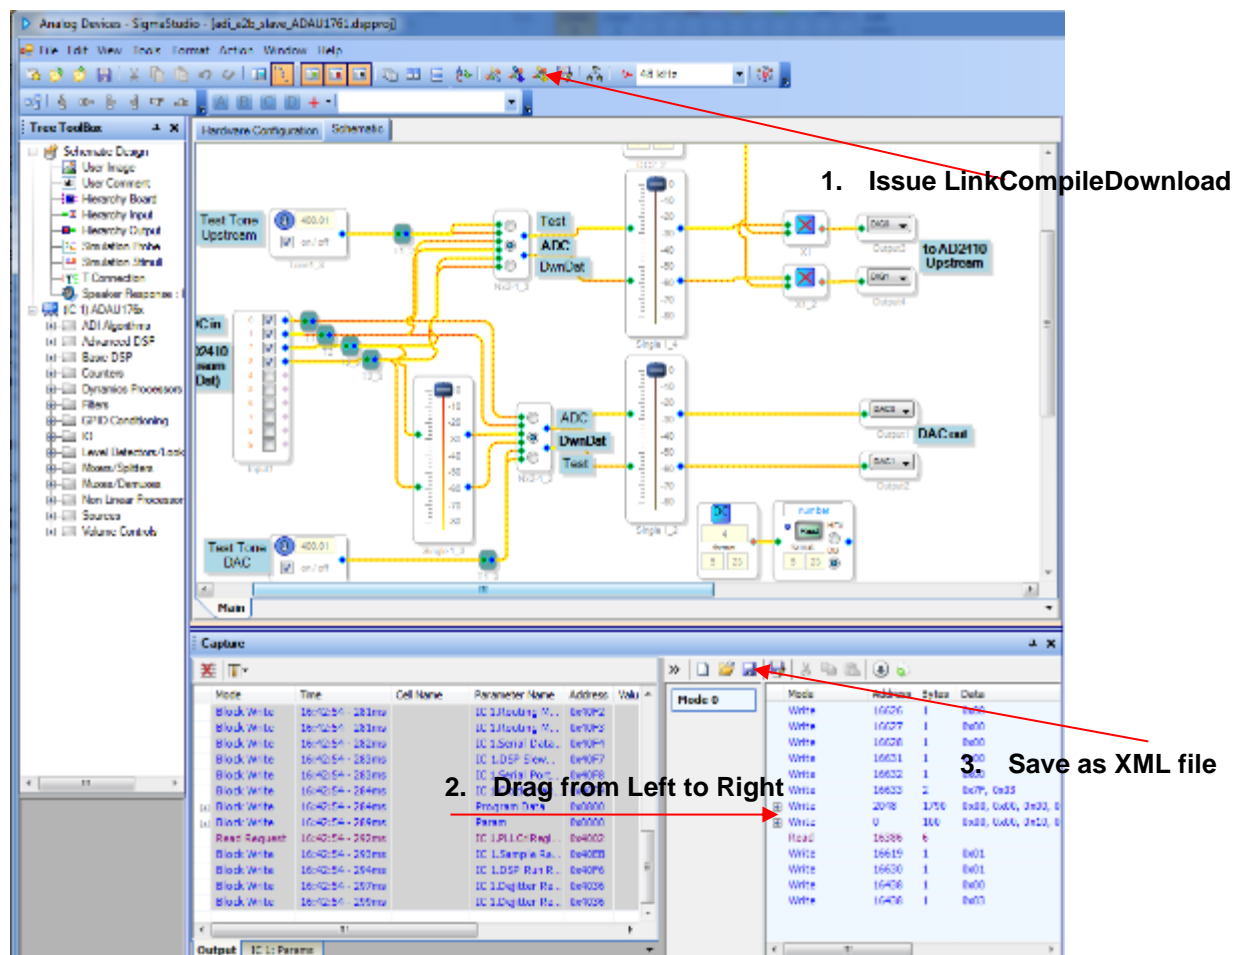

Figure 14: Saving SigmaDSP Schematic as a XML file
1. Open the required SigmDSP project in SigmaStudio. Make sure that 'Capture window' is visible as shown in Figure 14. If not select from SigmaStudio menu View->Capture window.